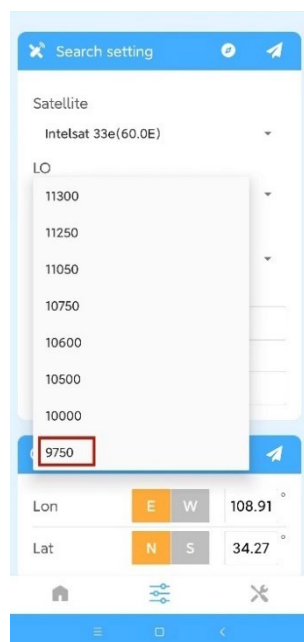

**Figure 7-10**
7. In the Home screen, click the navigation bar  icon below to enter the parameter setting interface, as shown in Figure 7-10.